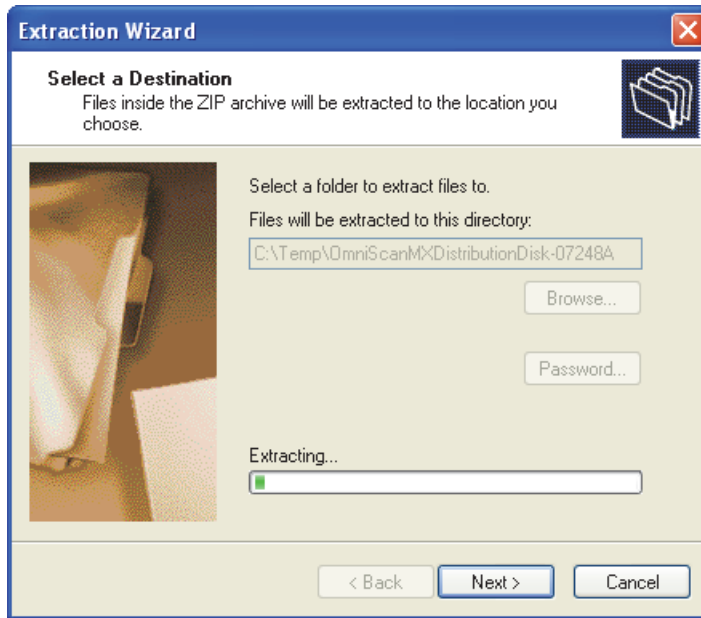

Figure 4-9 Extracting files
- Back in the **Select a destination** screen of the **Extraction Wizard**, click **Next** to start unzipping the files (see Figure 4-9 on page 71).